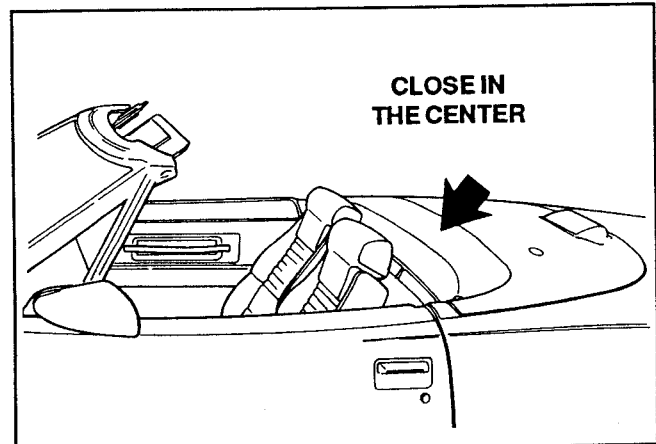

Figure 14. Close Stowage Panel
9. Shut the stowage panel by slamming in one motion (Fig. 14).